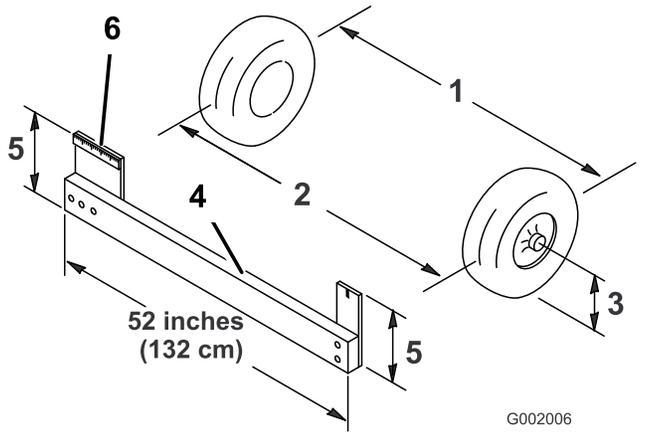

Figure 48
4. Measure the distance between both of the front tires at the axle height at both the front and rear of the front tires (Figure 48).
Note: A fixture or alignment gauge is needed for the rear measurement of the front tires at axle height. Use the same fixture or alignment gauge to accurately measure the front of the front tires at axle height (Figure 48).